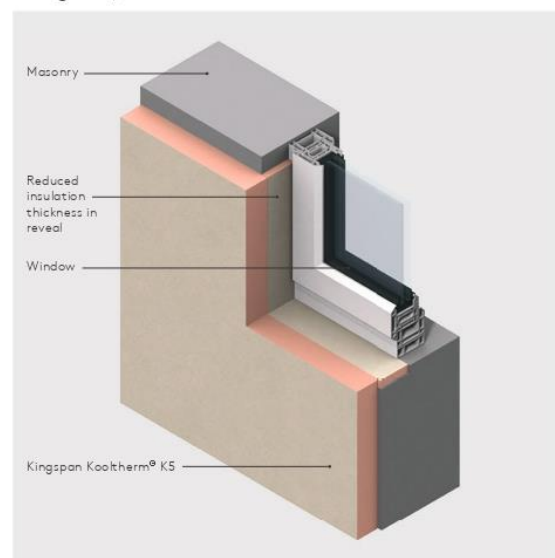

Figure 7
- Reveals should be designed to accommodate the 20 mm of Kingspan Kooltherm® K5 required to achieve an R-value of 0.6 m2K/W, and the depth of the cladding system (see Figure 7).
- Care should be taken to install the specified thickness of insulation around reveals (see Figure 7).